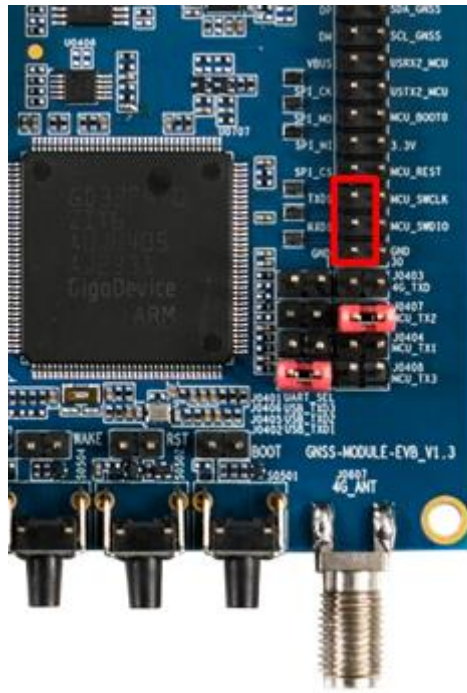

Figure 23: Injecting Vehicle Speed via UART
Step 2: Connect TXD1, RXD1, and GND of J0502 to your device, as shown in Figure 23: Injecting Vehicle Speed via UART.